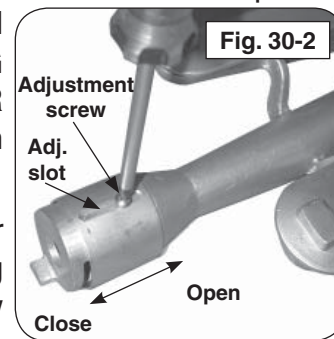

Fig. 30-2
2. Adjust the air shutter opening by loosening the adjustment screw with a screwdriver, then sliding the air shutter backward or forward to open or close the air shutter opening (see Fig. 30-2).